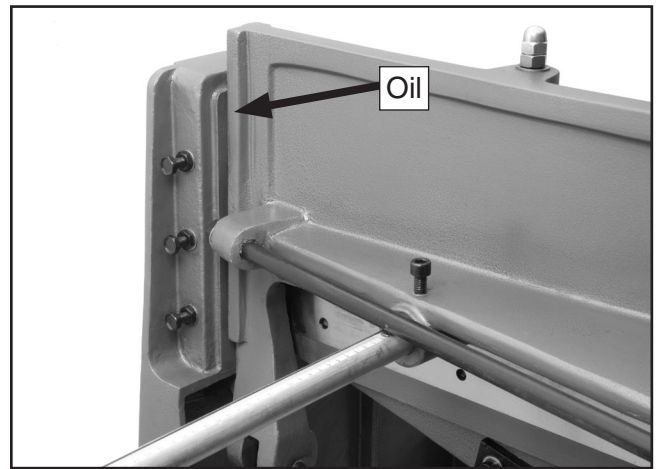

Figure 29. Gib and slide lubrication.
- Gibs and slides (**Figure 29**).